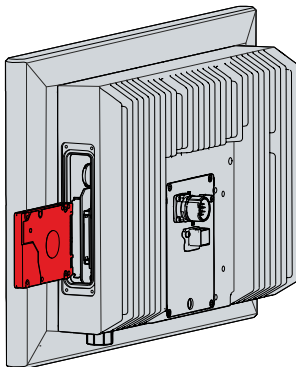

Fig. 41: CP32xx-1600\_exchange storage medium
2. Insert the new battery into the PC by hand. Pay attention to the correct polarity. The negative pole of the battery must face the display (see Fig. 41).